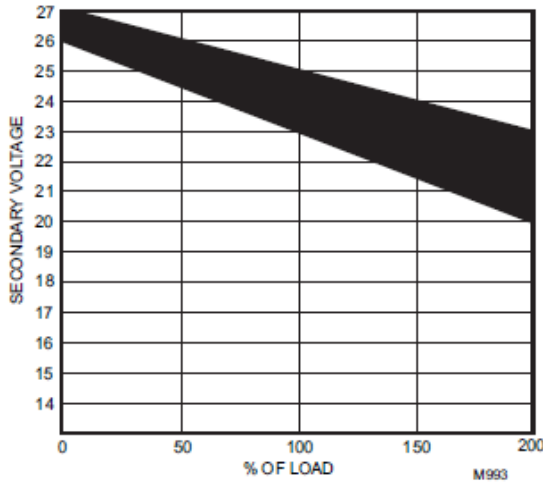

Figure 10: NEMA Class 2 transformer voltage output limits
Figure 10 shows this voltage load dependence.
In the preceding I x R loss example, even though the controller load is only 37 VA, a standard 40 VA transformer is not sufficient due to the line-loss. Looking at Figure 10, a 40 VA transformer is just under 100 percent loaded (for the 37 VA controller) and has a secondary voltage of 22.9 volts. (Use the lower edge of the shaded zone in Figure 10 that represents the worst case conditions.) When the I x R loss of four volts is subtracted, only 18.9 volts reaches the controller. This is not enough voltage for proper operation.
1. Use a larger transformer. For example, if an 80 VA model is used, an output of 24.4 volts, minus the four-volt line-loss, supplies 20.4V to the controller (Refer to Figure 10).
To meet the National Electrical Manufacturers Association (NEMA) standards, a transformer must stay within the NEMA limits. The chart in Figure 10 shows the required limits at various loads. With 100 percent load,